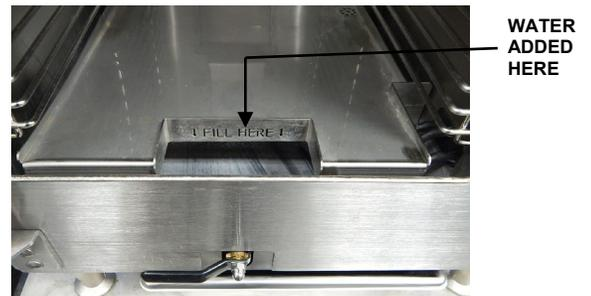

Figure 3-12
- To refill the compartment, pour fresh cold potable water into the slot shown in Figure 3-12.